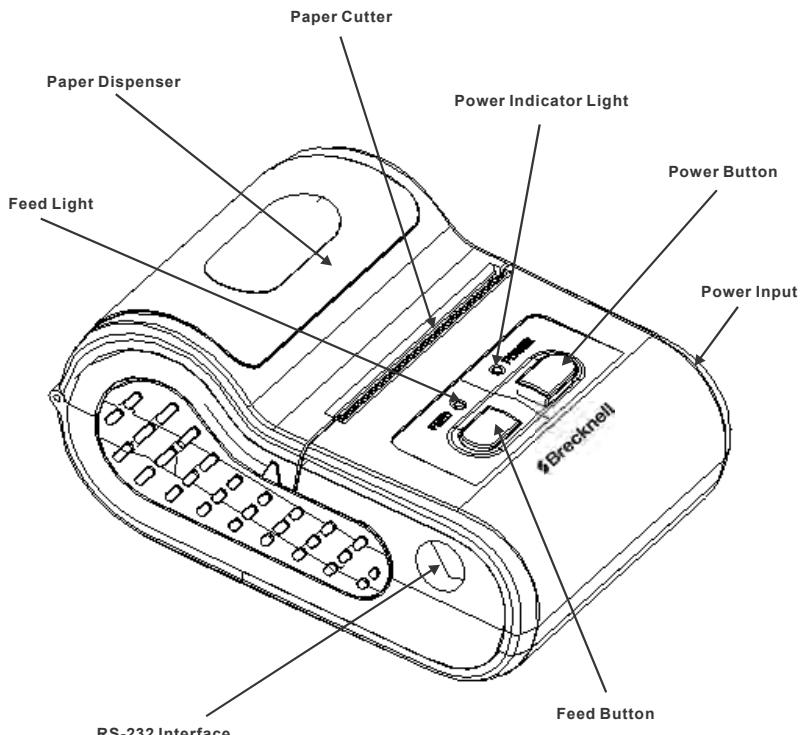

Figure 1.1 Printer Description
1. Install a roll of thermal paper in paper dispenser by lifting the dispenser cover and placing the paper in with the thermal side facing outward. Refer to Figure 1.1 for paper dispenser location.
3. Connect RS-232 cable by plugging the PS/2 end of the cable to the printer. Refer to Figure 1.1 for PS/2 connector location.
4. Connect AC power adapter to the printer by plugging the adapter connector into the printer power supply plug. Refer to Figure 1.1 for power input location.